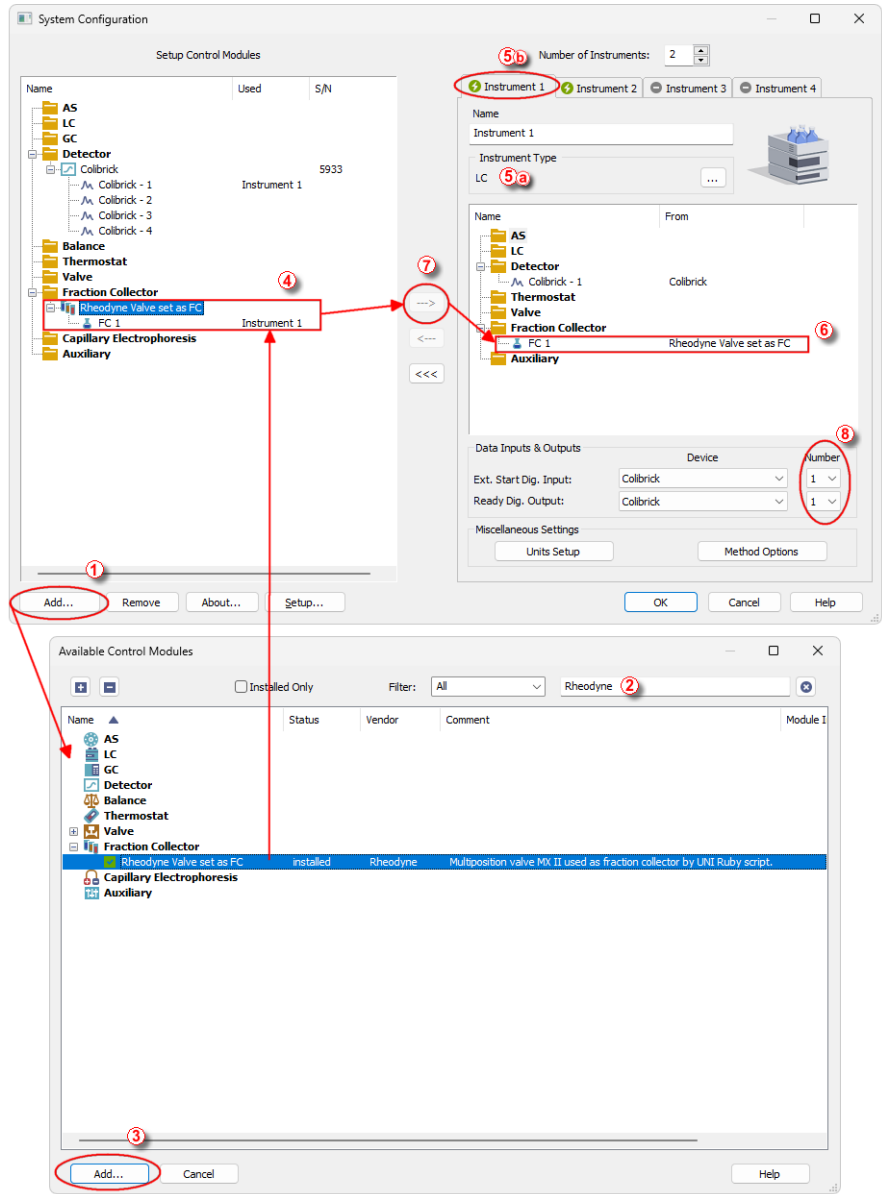

Fig. 2: How to add FC by Rheodyne Valve
- Press the **Add** button (① on Fig. 2 on pg. 4.) to invoke the *Available Control Modules* dialog.
- You can specify the search filter ② to simplify the finding of the driver.
- Select the correct item and press the **Add** (③ on Fig. 2 on pg. 4.) button. Each device with already created UNI profile should have its own item named accordingly in the *Available Control Modules* dialog.